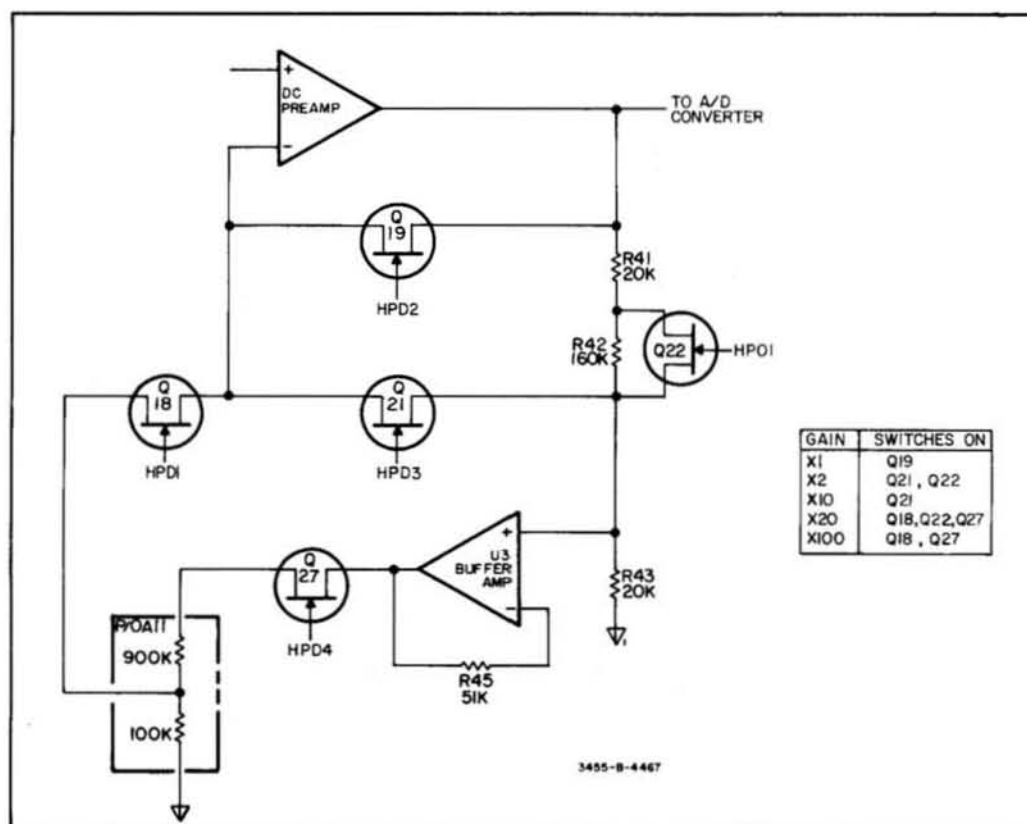

Figure 8-24. DC Preamp, Simplified Feedback Circuitry.
**8-79. Feedback Circuit.** The feedback circuitry for the DC Preamplifier consists of two 10-to-1 resistive dividers, a buffer amplifier, and FET switches. Figure 8-24 shows a simplified schematic of the feedback circuitry and lists the various switch closures necessary for the particular preamplifier gains. Buffer Amplifier U3 is a precision X1 Amplifier used to isolate the output divider from the precision 10-to-1 divider.